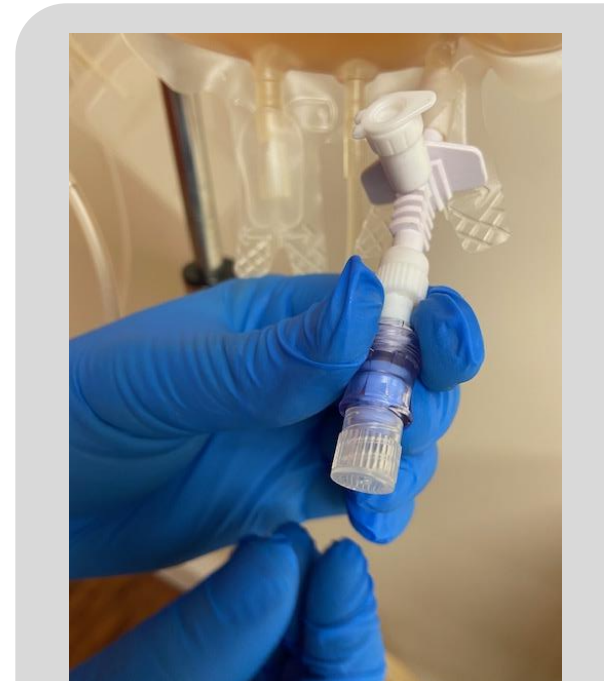

Fig. 9
- Take the needle free cap from the sterile packet and carefully replace the needle free valve cap (Fig.9).